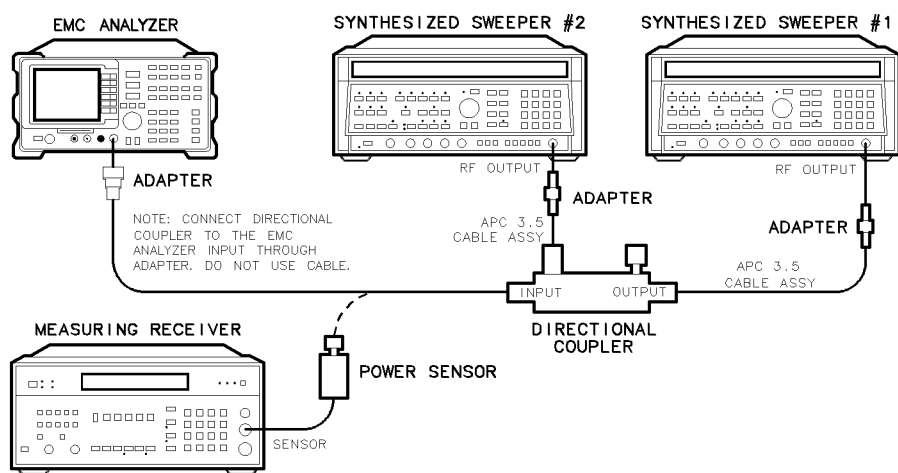

Figure 2-60. Gain Compression Test Setup, HP 8596EM
2. Connect the equipment as shown in Figure 2-60, with the output of the directional coupler connected to the power sensor.
28. Remove the EMC analyzer from the directional coupler and reconnect the measuring receiver power sensor to the directional coupler as shown in Figure 2-60.